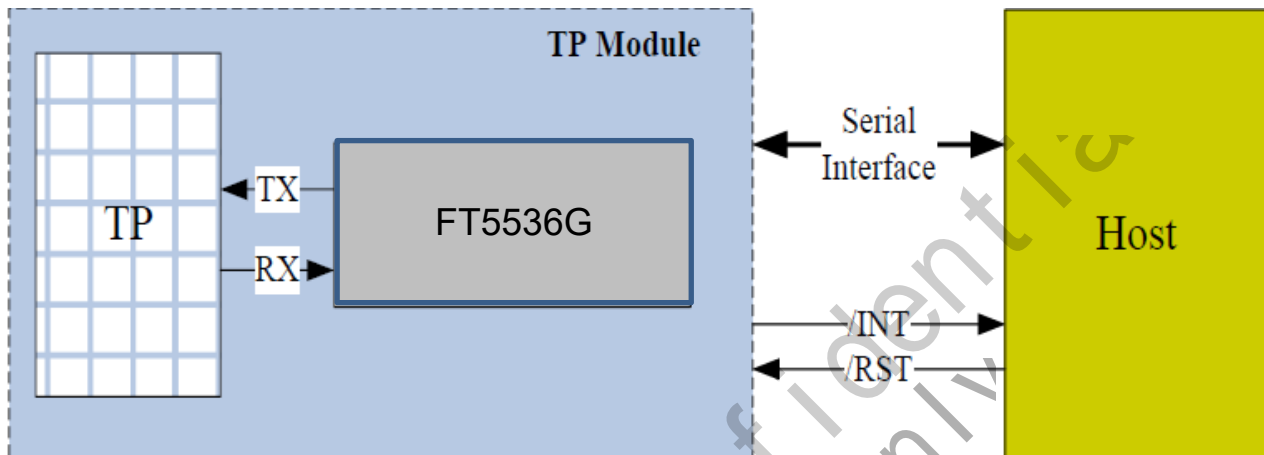

Figure 2-3 Host Interface Diagram
**Figure 2-3** shows the interface between a host processor and FT5536G. This interface consists of the following three sets of signals: